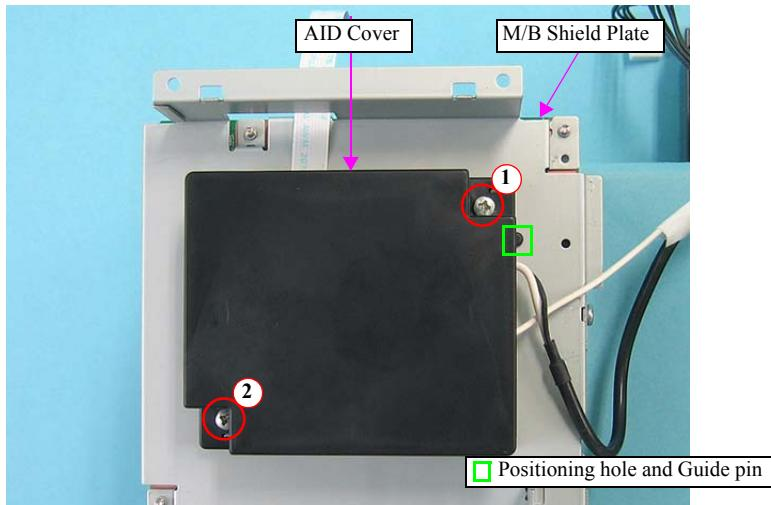

Figure 4-55. Removing the AID Board (3)
- Tighten the screws in the order indicated in Figure 4-54 and Figure 4-55.